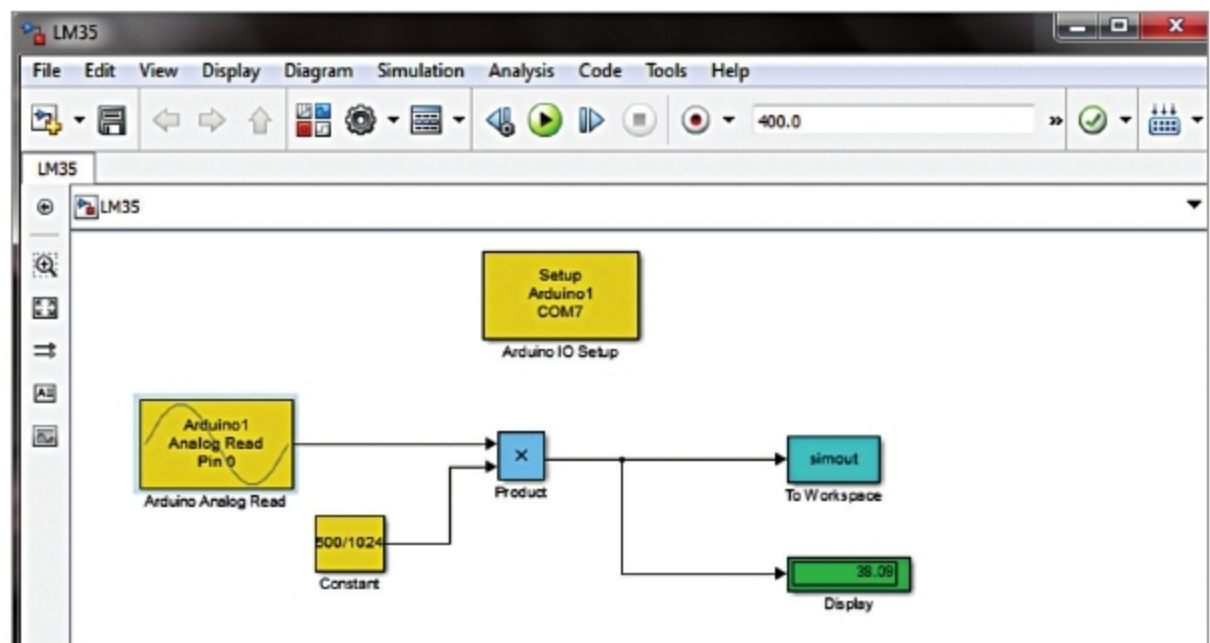

Figure 3: Screenshot of the Simulink model
- Open Simulink LM35.slx source code file from MATLAB. The screenshot of the designed Simulink model is shown in Figure 3